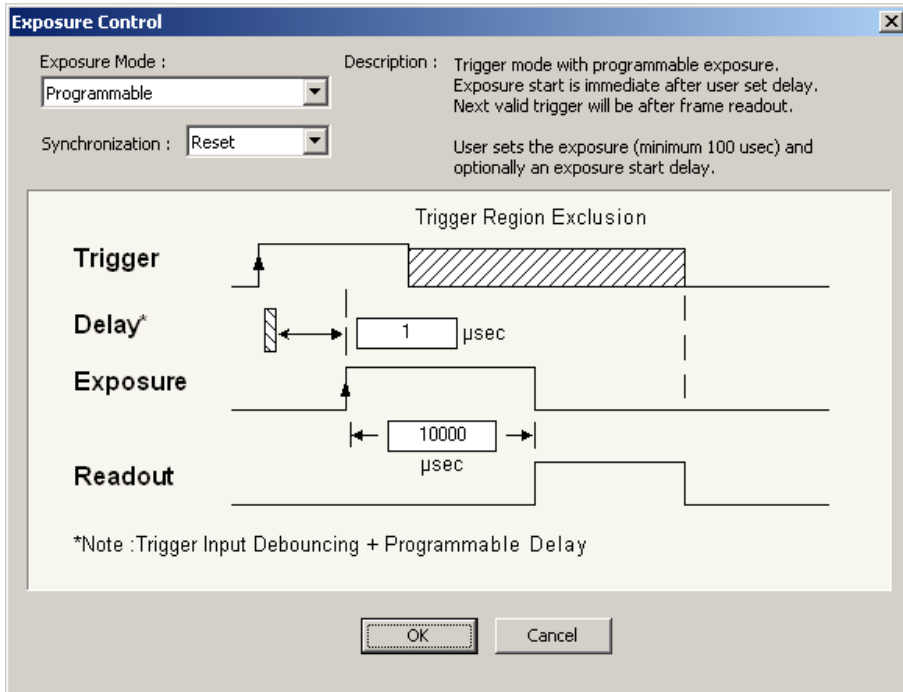

Figure 39. Exposure Control
2. Click on “Setting” beside “Exposure Control” to open the Exposure Control window (Figure 39).
3. Change the value in the box to the right of “Exposure.” Figure 39 shows a 10 ms (10,000  $\mu$ s) exposure time. You can increase or decrease this amount.
4. Synchronization should be “Reset” as shown in Figure 39.